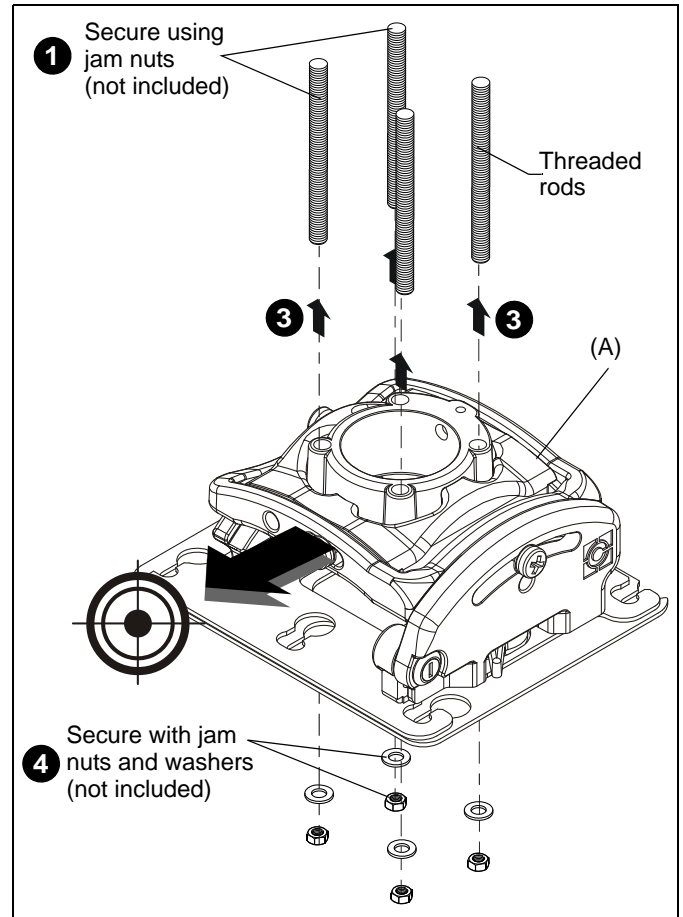

Figure 7
- Secure the threaded rods to the RPMX with #10-24 jam nuts (not included) and 1/4" washers (not included). (See Figure 7)